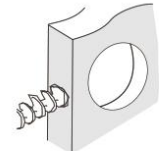

Figure 3b
- Drill 1" (25mm) hole in the center of door edge for the deadbolt (Figure 3b).